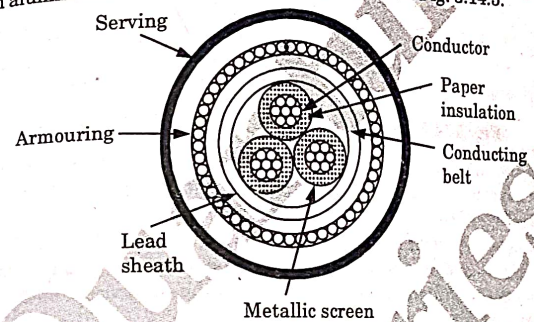

Fig. 5.14.3. H-type cable.
1. There is no paper belt in this type of cable. Each conductor in this cable is insulated with a paper, covered with a metallic screen which is generally an aluminium foil. The construction is shown in Fig. 5.14.3.